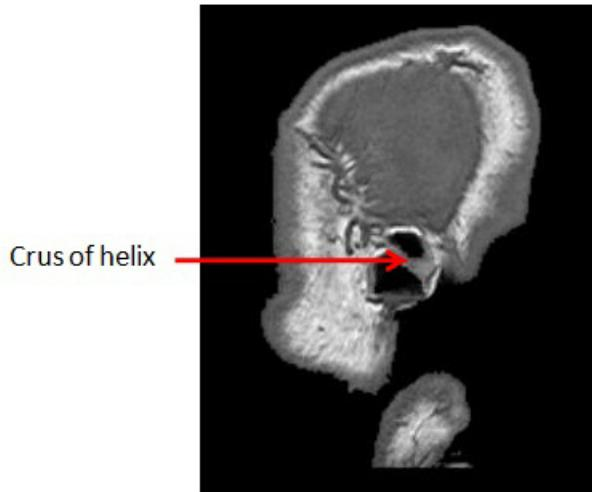

Fig. 71. Crus of helix bridging the ear
1. It is easiest to start by placing the crosshair slightly inside the auricle so that the crus of helix is seen completely bridging diagonally across the ear as shown in Figure 71.